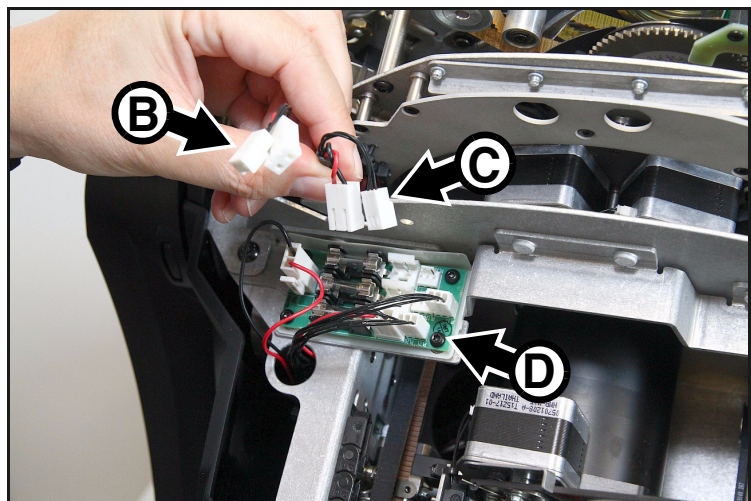

Figure 11: Disconnecting the multi-module
3. See Figure 11. Unplug the two pairs of power and data multi-module connectors **B** and **C** from their sockets on the distribution PCB **D**.